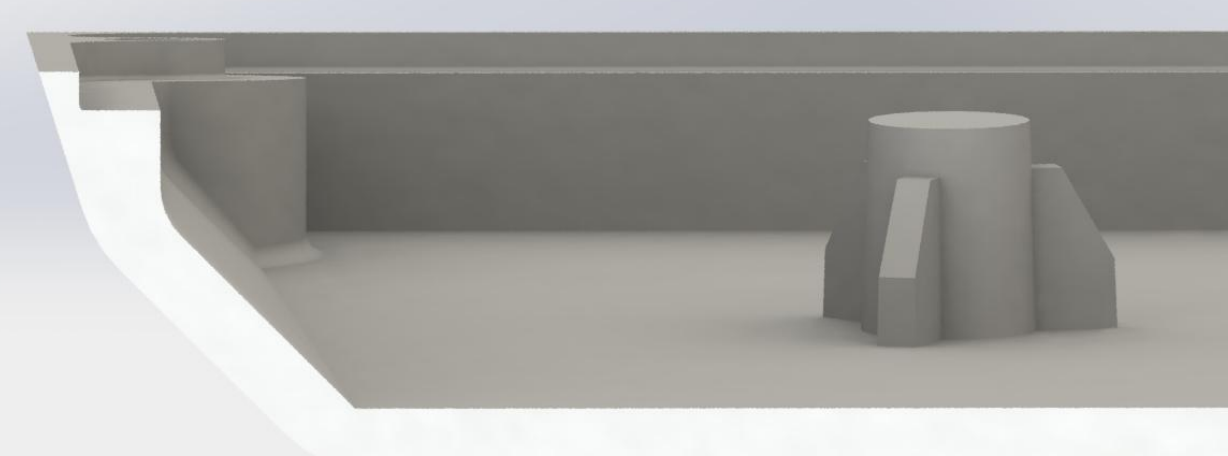

Figure 3
- Straight ledge design for gluing the gasket into the enclosure top (figure 3)